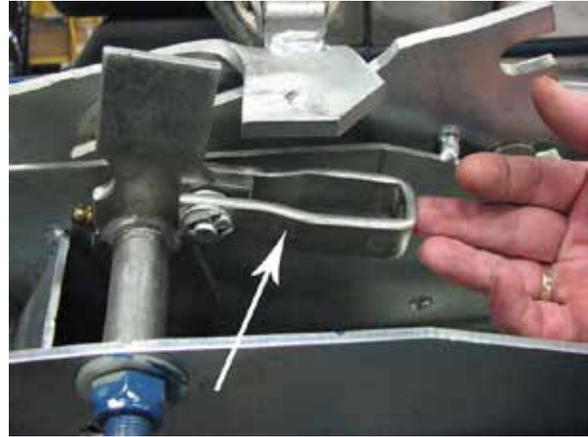

Figure 2.2, Remove this clevis on 50mm coupler
2. Attach 50mm coupler (4) to hitch pole (13) using two 1/2 x 4" bolts (8), washers (6) and nuts (7). Torque to 75 ft-lbs.
3. Attaching the brake rod (14) to the coupler will require the removal of the clevis shown in Figure 2.2. Figure 2.2 is an underneath view of the coupler.